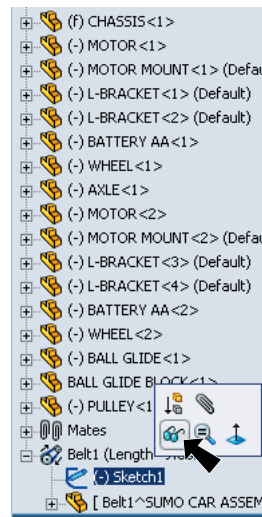

Fig. 12
Step 2. Click **Sketch1** and click **Hide** , Fig. 12.